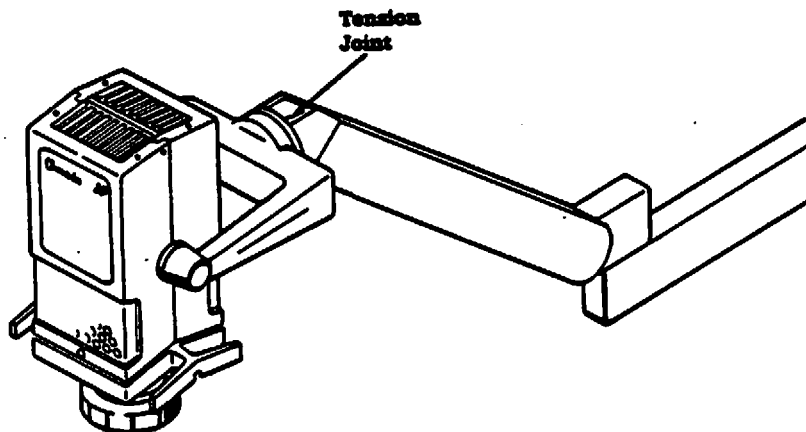

Figure 4. Tension Joint
- a. Locate the notch on the underside of the joint between the lamp-head and the articulating arm (Figure 4).